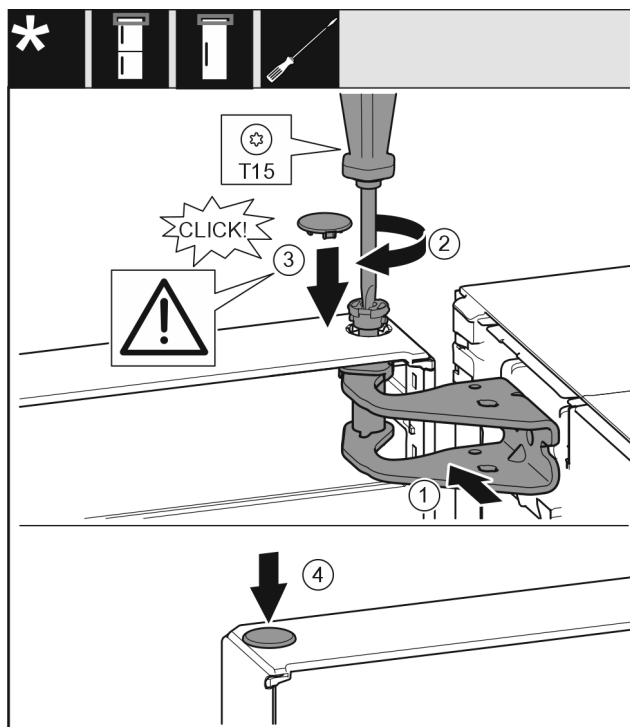

Fig. 19
- Align the top of the door with opening in the bearing bracket. Fig. 19 (1)
- Insert the bolt and tighten with a T15 screwdriver. Fig. 19 (2)
- Fit the protective cover to protect the door: Insert the protective cover and check that it lies flush on the door. If not, insert the bolt fully. Fig. 19 (3)
- Insert the plugs. Fig. 19 (4)